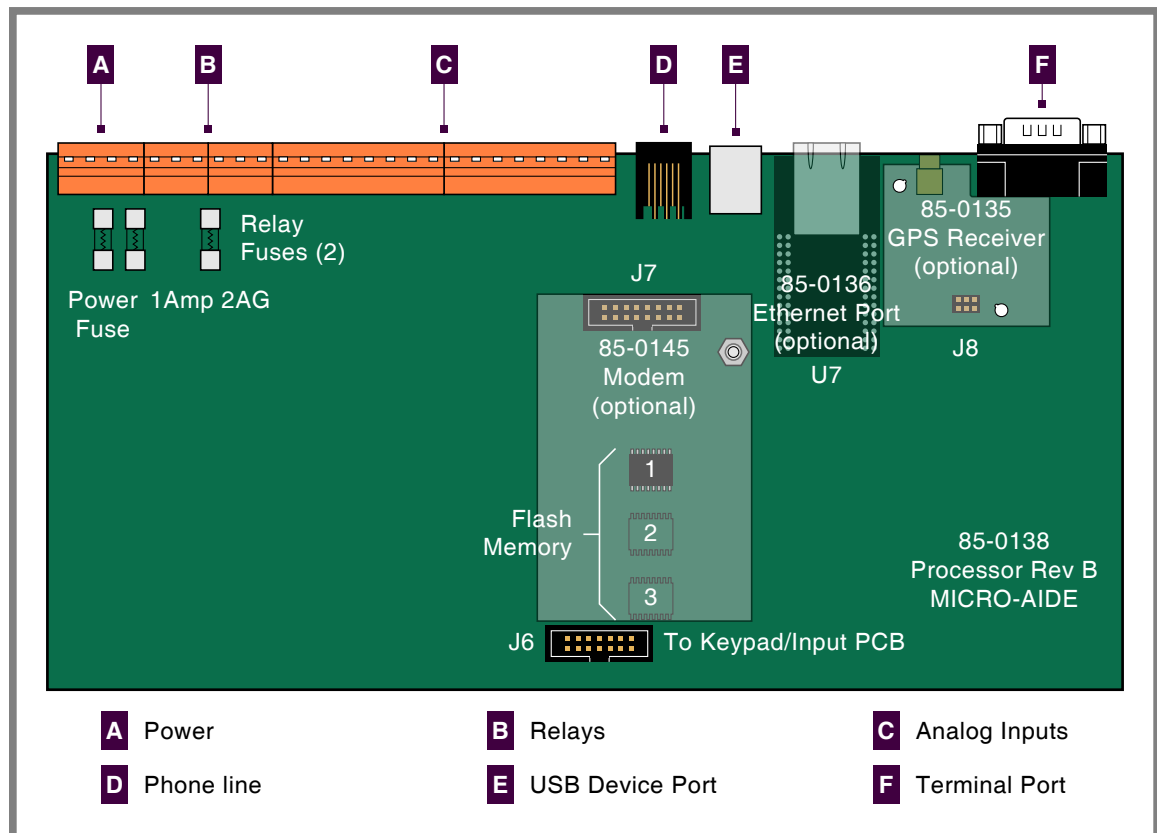

Figure 7: Processor PCB
There are three fuses mounted on the Processor PCB. The fuses are designed to protect the input power source and the contacts of the output relays. Each are rated at 1 A and conform to the 2AG size standard. Before replacing a fuse the cause of the blown fuse should be ascertained and cleared if possible. The fuses are illustrated in Figure 7 on page 83.
Generally, the GPS Receiver is ordered at the time the recorder is purchased and is pre-installed at the factory. If the receiver was not previously ordered, it can be installed by the user. To install the receiver follow the steps listed in the following. The GPS Receiver PCB is illustrated in Figure 7 on page 83.
3. Locate the 6-pin female socket labeled "J8" near the top-right edge of the Processor PCB. The socket is illustrated in Figure 7 on page 83.
Generally, the modem PCB is ordered at the time the recorder is purchased and is pre-installed at the factory. If the modem was not previously ordered, it can be installed by the user. To install the modem follow the steps listed in the following. The modem is illustrated in Figure 7 on page 83.
2. Locate the 16-pin female socket labeled "J7" near the center of the Processor PCB. The socket is illustrated in Figure 7 on page 83.
- Locate the 56-pin female socket labeled "U7" along the upper edge of the Processor PCB. The socket is illustrated in Figure 7 on page 83.